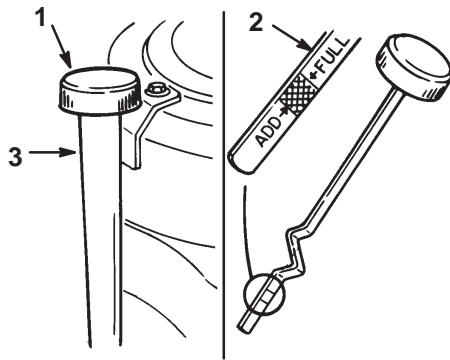

Figure 25
2. Clean around the oil dipstick (Fig. 25) so dirt cannot fall into the filler hole and damage the engine.
3. Unscrew the oil dipstick and wipe the metal end clean (Fig. 25).
4. Slide the oil dipstick fully into the filler tube, do not thread onto tube (Fig. 25). Pull the dipstick out and look at the metal end. If oil level is low, slowly pour only enough oil into the filler tube to raise the level to the full mark.
5. Slowly pour approximately 80% of the specified oil on page 25, into the filler tube (Fig. 25). Now check the oil level; refer to Checking Oil Level, page 25. Slowly add additional oil to bring to full mark on dipstick.